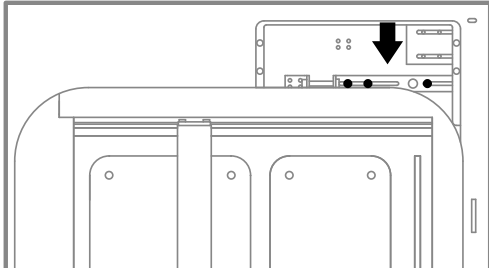

Fig. 13.68 Loose the three screws of the tightening mechanism.
11. To tighten the cord, use a 7 mm wrench and loosen the three screws marked in figure 13.68.
13. Using a 7 [mm] wrench, tighten back the three screws marked in figure 13.68.